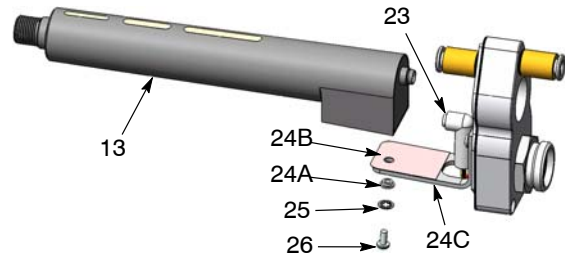
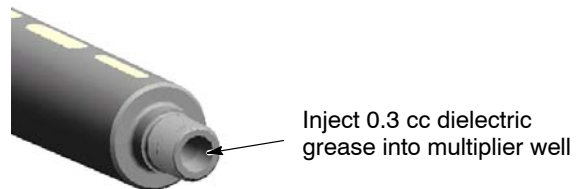

Figure 25 Replacing the Multiplier
Figure 26 Multiplier Well Greasing
1. See Figure 25. Connect the harness plug (23) to the multiplier (13).
3. Secure the multiplier to the bracket with the screw (26) and lockwasher (25).
4. See Figure 26. Inject approximately 0.3 cc of dielectric grease into the multiplier well, so that it is about 75% full.
4. See Figure 25. Remove the screw (26) and lockwasher (25), then remove the multiplier (13) from the bracket (24C).
5. Disconnect the harness plug (23) from the multiplier.